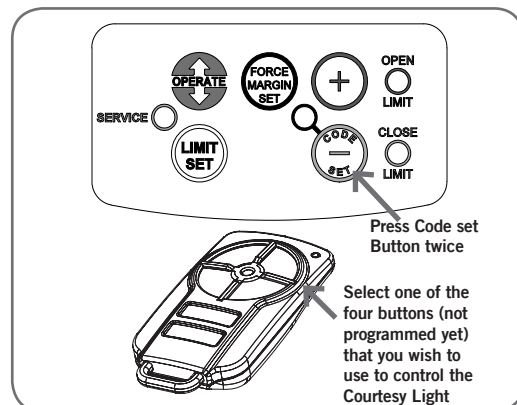

Fig.29
19.2 - Setting the Transmitter to Operate the Courtesy Light (Fig.29)